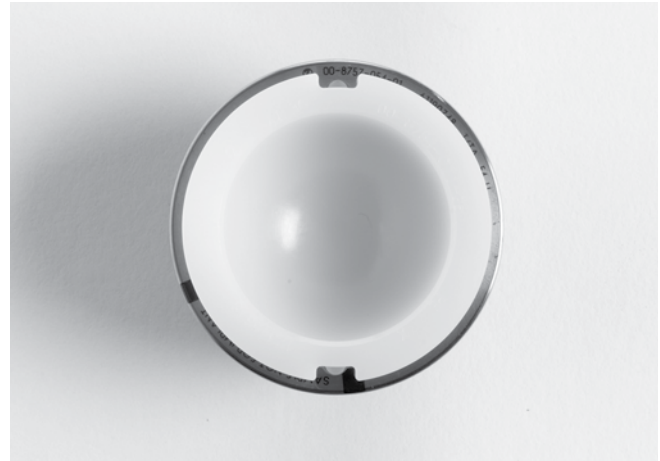

Fig. 10
- Liner sizes 28 CC - 28 GG, 32 EE - 32 II and 36 HH - 36 KK include a lip that has window cut outs to allow for visualization of two anti-rotation tabs. Utilize the window cut outs to verify proper seating of the liner by ensuring that the anti-rotation tabs are flush relative to the Shell face (Fig. 10).